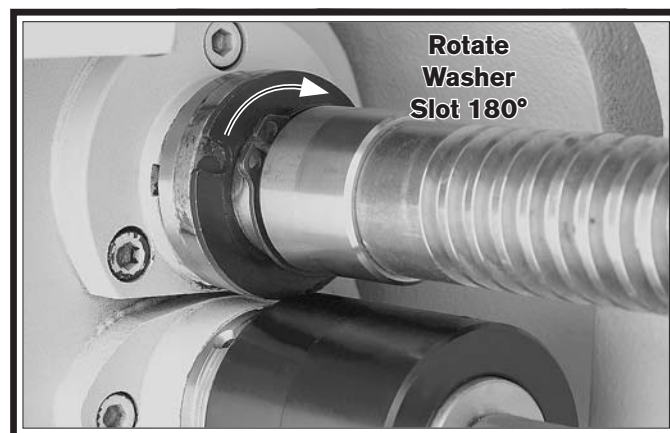

Figure 133. Shroud washer positioning.
10. With the pin completely seated in the bore and the head flush with the leadscrew shoulder, slide the shroud washer against the shoulder, then rotate the washer 180° to completely cover the head of the shear pin, as shown in **Figure 133**.